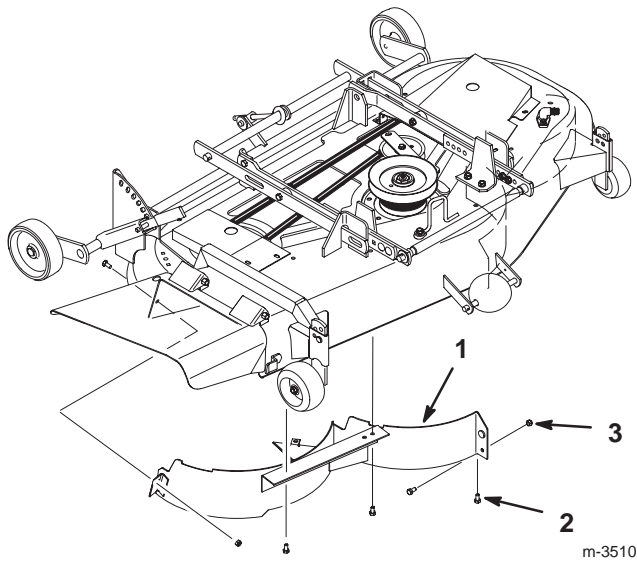

Figure 25
1. Remove the locknuts and bolts from the right side baffle (Fig. 25).
2. Slide the baffle out the discharge opening (Fig. 25).
3. Install the bolts and locknuts you removed in step 1 in the open holes of the mower for safety (Fig. 25).
2. Remove the locknuts and bolts from the recycling baffle mounting holes (Fig. 25).
3. Slide the baffle into the discharge opening and into the mower so the pin on the center flange goes through the baffle (Fig. 25).
4. Secure the baffle with the bolts and locknuts you removed in step 2 (Fig. 25).